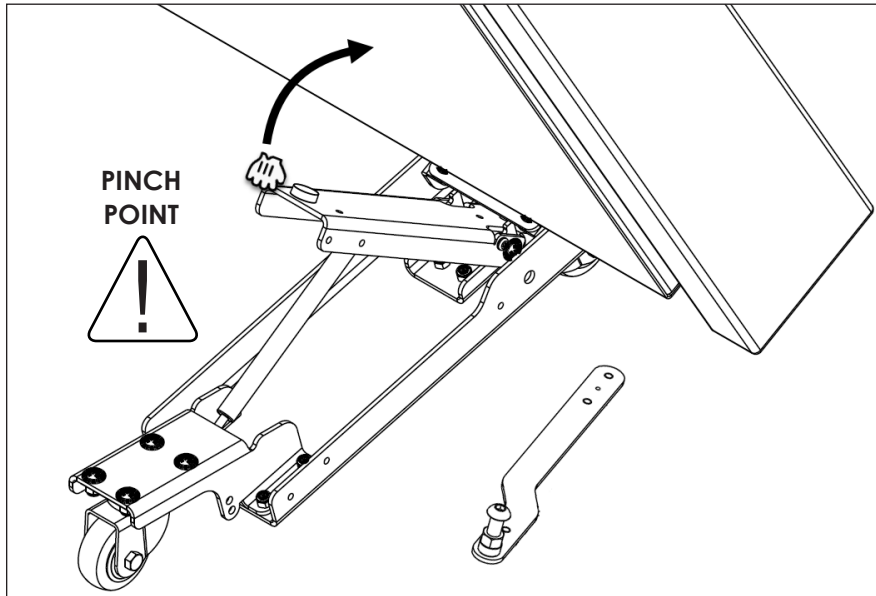

Figure 31: Raise Pivot Arm (Right Caster Base)
6. Move to the right side caster base pivot arm and repeat **Step 5** to fully lift the table off the floor. Refer to **Figure 31**.